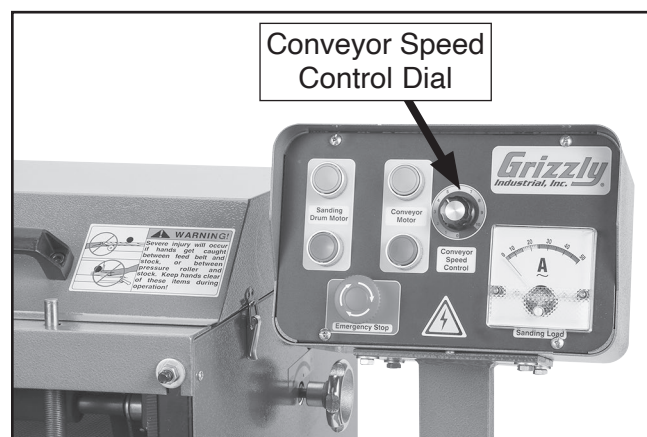

Figure 24. Location of Conveyor Speed Control dial (G1066Z).
2. Slowly rotate Conveyor Speed Control dial *clockwise* to increase conveyor speed (see **Figure 24**).